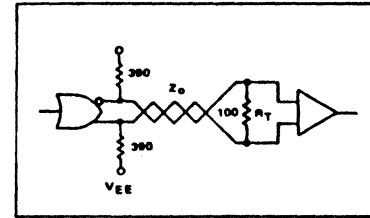

FIGURE 25 — TWISTED PAIR LINE DRIVER/RECEIVER
Twisted pair lines are one of the most popular methods of interconnecting cards or panels. The complementary outputs of any MECL III or MECL 10,000 function are connected to one end of the twisted pair line, and any MECL differential line receiver to the other as shown in the example, Figure 25. R_T is used to terminate the twisted pair line. The 1 to 1.5 V common-mode noise rejection of the line receiver ignores common-mode cross talk, permitting multiple twisted pair lines to be tied into cables. MECL signals may be sent very long distances (> 1000 feet) on twisted pair, although line attenuation will limit bandwidth, degrading edge speeds when long line runs are made.
1. The OR/NOR outputs of an MC1660 may be used to drive into twisted pair lines or into flat, fixed-impedance ribbon cable. At the far end of the twisted pair an MC1692 differential line receiver is used. The line should be terminated as shown in Figure 25. This method not only provides high speed, board-to-board clock distribution, but also provides system noise margin advantages. Since the line receiver operates independently of the V_{BB} reference voltage (differential inputs) the noise margin from board to board is also independent of temperature differentials.